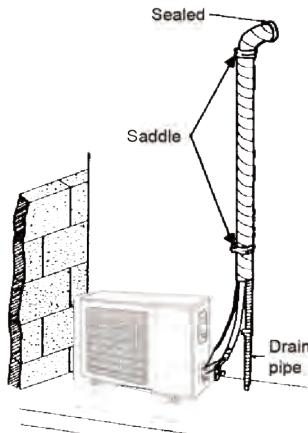

Fig. 4.15
- (1) If the outdoor unit is installed lower than the indoor unit (See Fig. 4.15)